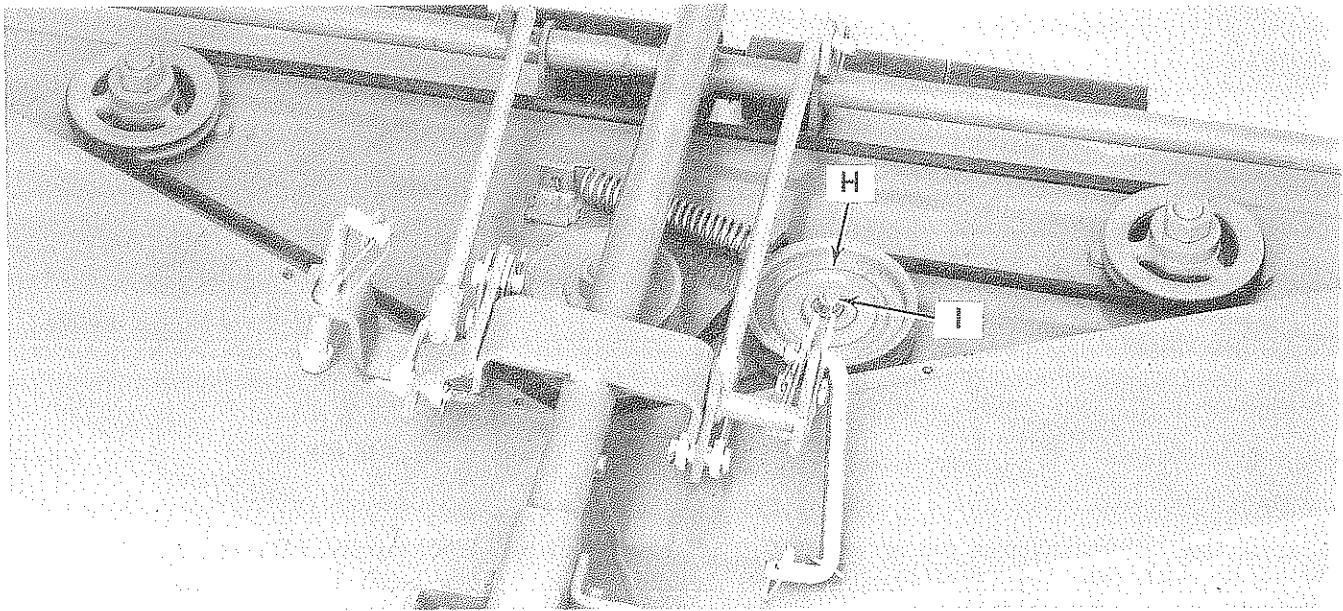

Figure 7
6. The deck belt is automatically tensioned by a spring loaded idler pulley, Reference "H", Figure 7 and adjustment is not required.
If a new belt is installed, place it around three spindle pulleys as illustrated. Place a 9/16-inch box wrench over the hex nut, Reference "I", Figure 7, on the idler pulley and pivot the idler pulley towards the front of the mower until the belt can be easily placed over the back side as shown. Check to make sure the belt is not twisted before replacing covers.